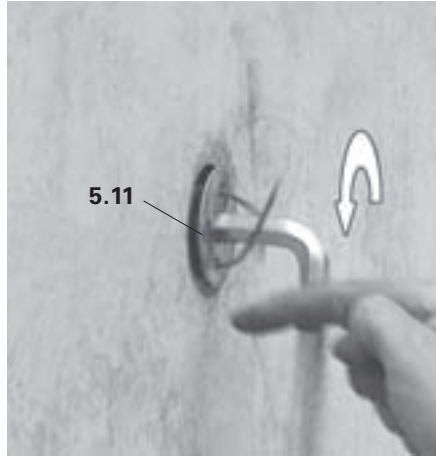

Fig. B1.16
1. Remove the Anchor Positioning Stud M24 (5.11) from the cone with an Allen Key SW 14. (Fig. B1.16)